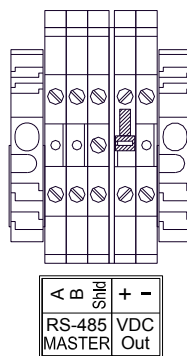

Figure 12 N4X RS-485 Master Port Connections
6. Connect the external Modbus™ sensors at the RS-485 connections labeled **RS-485 Master** and **'A'**, **'B'**, and **'Shld'** (Figure 12).